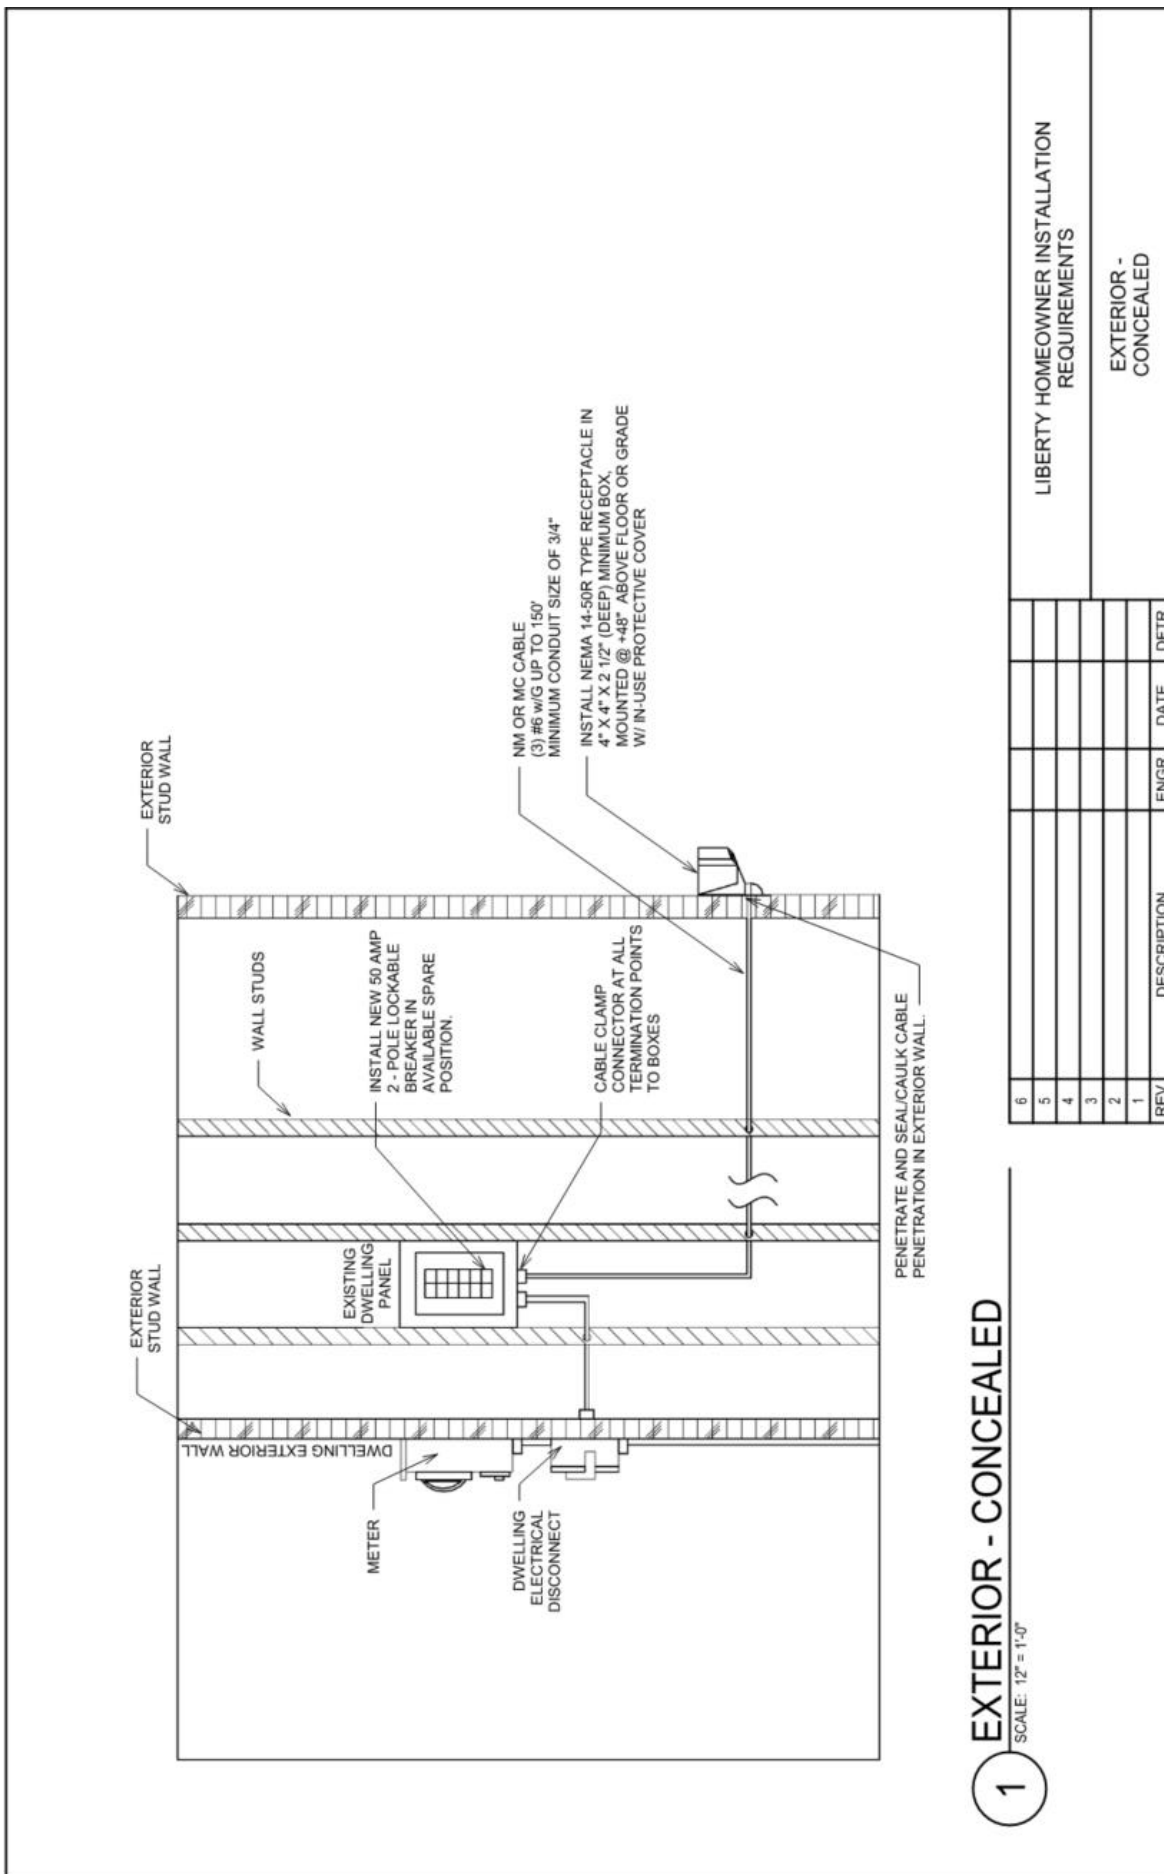

Figure 3: General diagram of outdoor installation with branch circuitry installed within walls
- Figure 3: General diagram of outdoor installation with branch circuitry installed within walls**